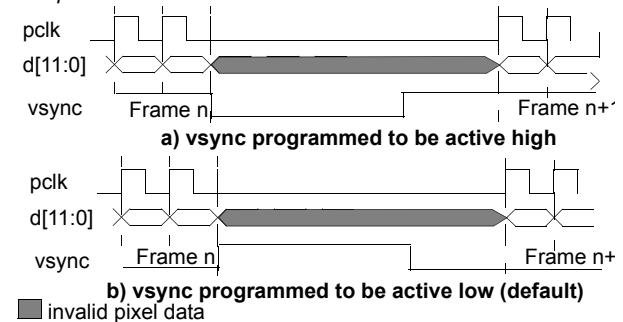

Figure 44. vsync in pulse mode
- Pulse mode should be used when the pixel clock, *pclk*, is programmed to operate in *data ready mode*. In pulse mode the *vsync* output pin will produce a pulse at the end of each frame. The width of the pulse will be a minimum of four *hclk* cycles and its polarity can be programmed as shown in Figure 44. The *vsync* level is always synchronized to the active edge of *pclk*.